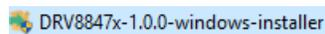

Figure 14. DRV8847 Firmware Installer Executable File
1. Double click the executable file (.exe) for the DRV8847x reference software installer (see Figure 14).